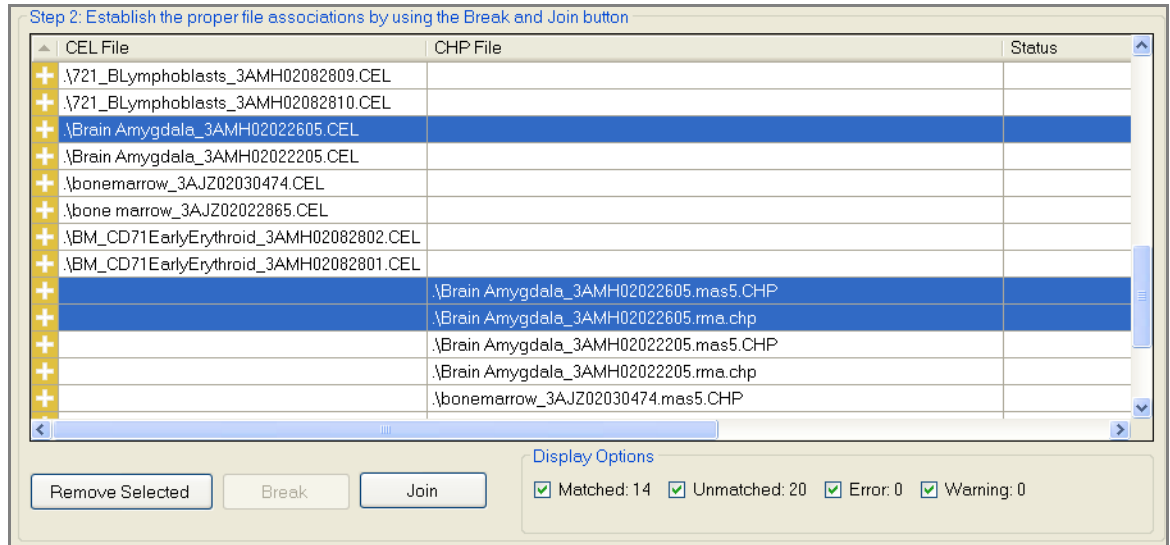

Figure 3.15 Files selected for joining.
5. To join two unconnected files (Figure 3.15):